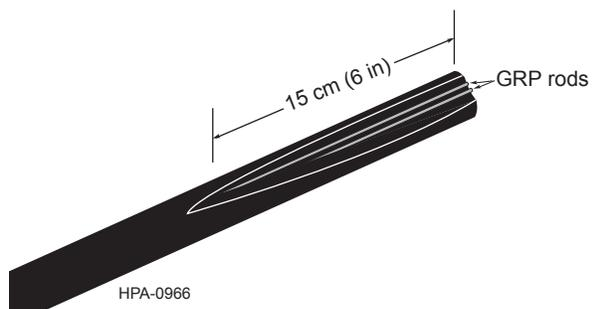

Figure 3
Step 2: Starting at the end of the cable, use the cable sheath knife to shave off 15 cm (6 in) of the outer sheath directly over the rods. Shave the sheath until the GRP rods and the ripcord on each side of the cable are visible (Figure 3).